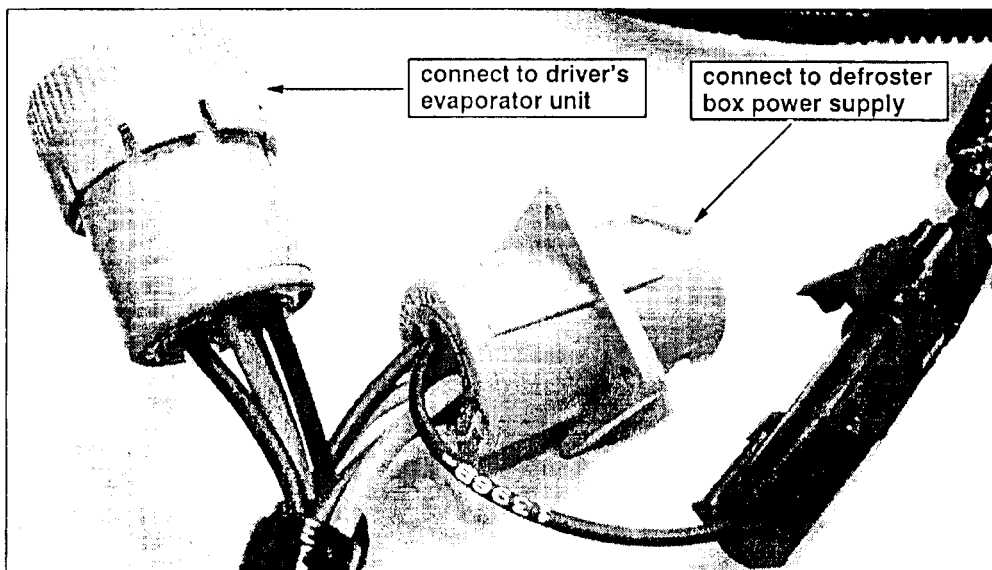

Figure 9.
16. Connect the 5-pin Deutsch connector plug to the driver's evaporator unit (Figures 9 and 10). Connect the driver evaporator harness connector to the defroster box power supply (Figure 9).